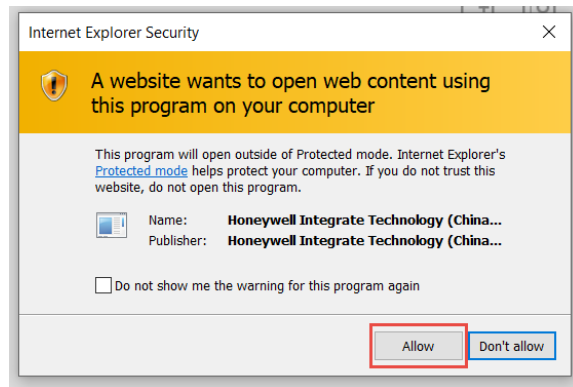

Fig. 4.7
6. If the security prompt appears, click “Allow,” see Fig. 4.7. You may have to repeat this several times.